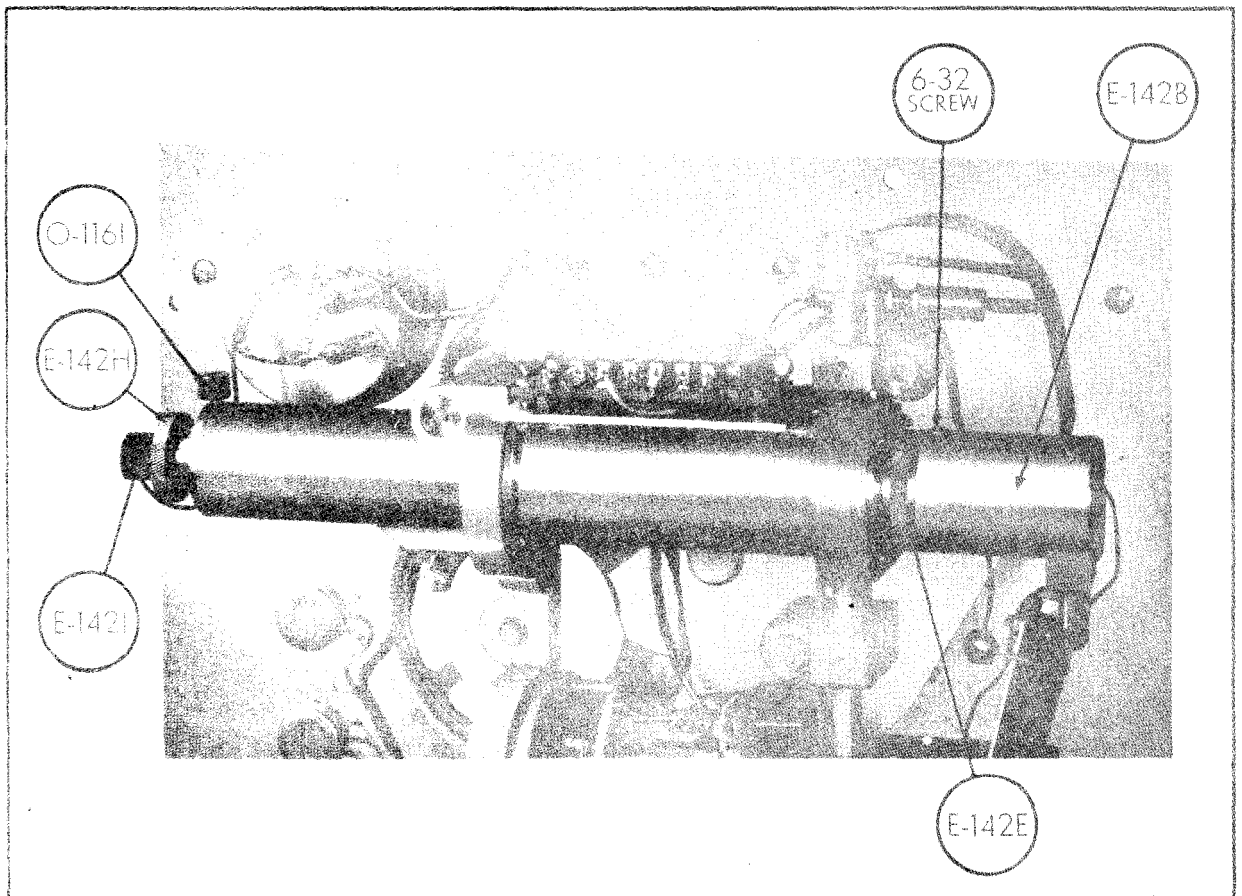

Figure 4-1. Overall View of Oscillator Assembly
(1) Referring to figure 4-1, remove the #6-32 screw that holds the housing E-142B. Then remove housing E-
(5) Loosen thumbscrew O-116I. Hold tube base with one hand and push the knurled collar on the end of the cavity inner conductor E-142H to the right (as viewed in figure 4-1) as far as it will go. Tighten the thumbscrew.